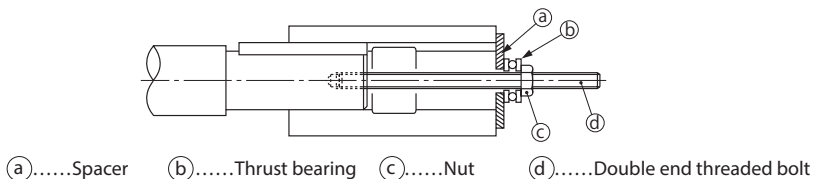

Figure 5-5 Mounting Jig
- If the fit is tight, lightly hit the end face of the hollow shaft with a wooden hammer to insert the shaft. When doing so, never hit the case or the oil seal directly. If the fit is particularly tight, use a jig such as the one shown in Figure 5-5 for a smoother insertion.